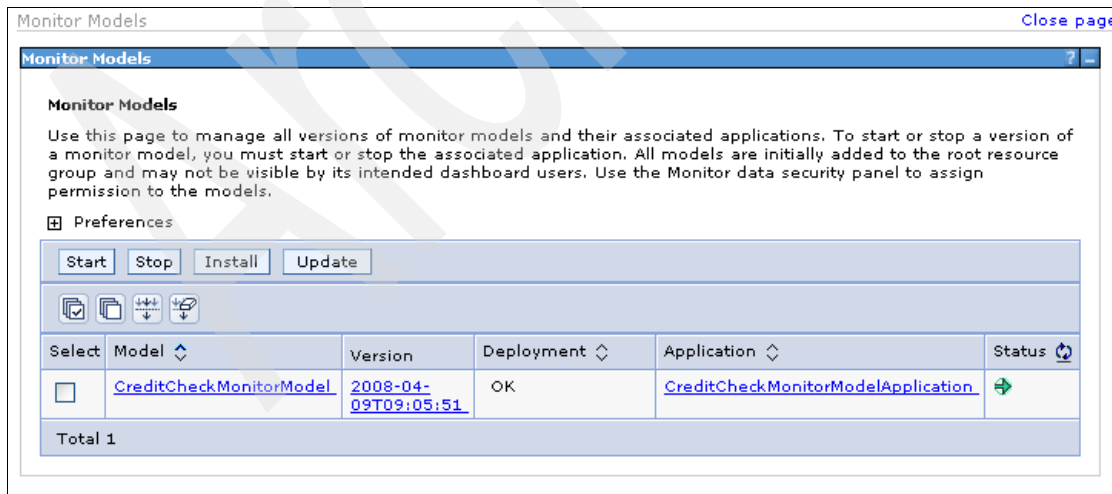

Figure 10-86 Installed monitor models
- In the Monitor Models panel (Figure 10-86), the Deployment is OK and the Status has a green arrow. (When a model is first deployed, it may take some time before you see the green arrow.) If the model is not started, select **CreditCheckMonitorModel** and click **Start**.